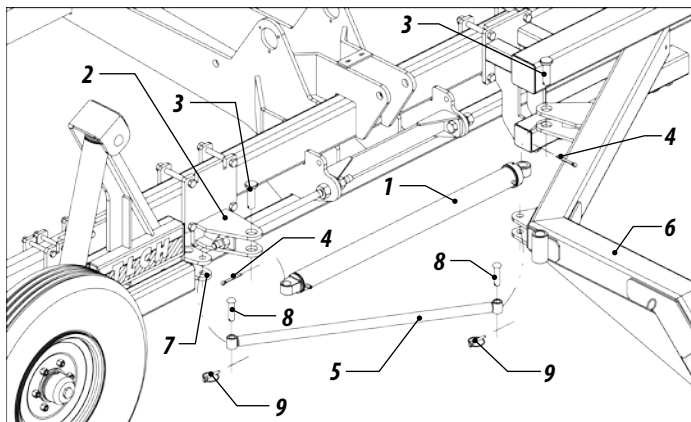

Figure 19
35- 2 – After, place the lock bar (5), on the side frame (6) and rear bracket (7), latching with the pins (8) and latches (9), figure 19.